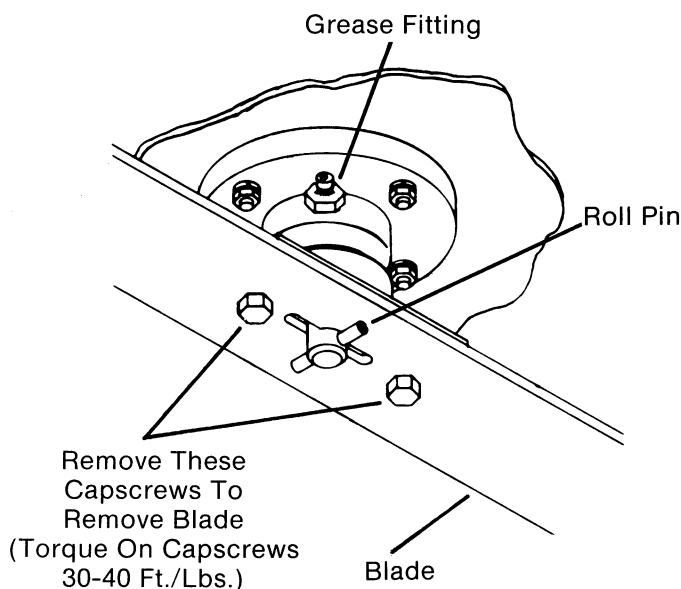

FIG. 14
c. **Cutting Blade Spindles (3):** Remove the mower from tractor and turn upside down. Clean off all 3 grease fittings (Fig. 14) before grease gun is used. Use #2 wheel bearing grease or Ford 1T-M1C137-A grease. Lubricate until grease is visible.
- Remove two capscrews, lockwashers and hex nuts that secure blade to spindle assembly. (Fig. 14)
- Turn blade 90° to clear roll pin in spindle assembly. (Fig. 14)
NOTE: At this time, lubricate all spindle bearings (Fig. 14) and sharpen or replace blades. Also be certain that all spindle assemblies are torqued securely to mower deck. (Reference SPINDLE REMOVAL AND REPLACEMENT).